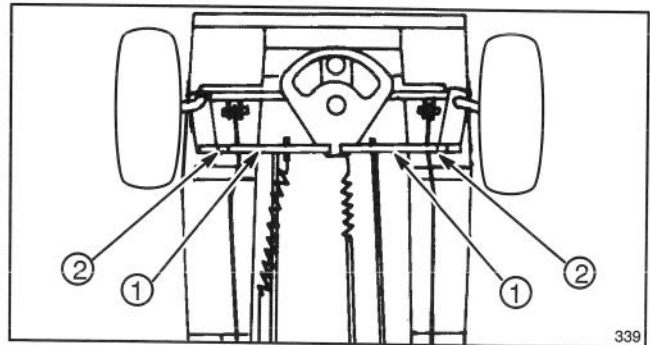

Figure 29
- To align front wheels, loosen jam nut and turn tie rod end (there is only one adjustable tie rod) until center line distance across front of wheels (d') is .06 inch (1.5 mm) to .25 inch (6.3 mm) less than center line distance across rear of front wheels (d'') (Fig. 29 & 30).